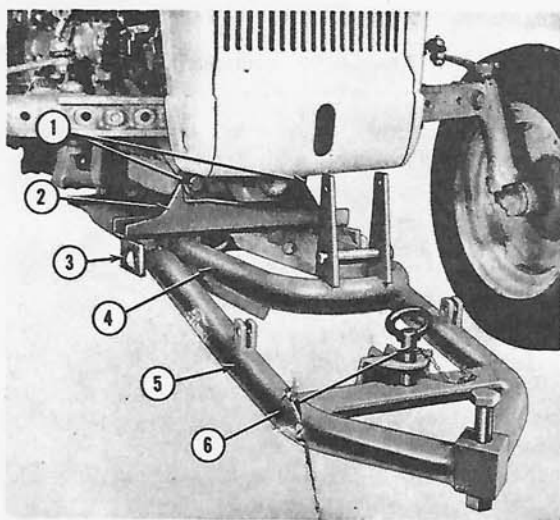

Figure 7
1. Position the frame assembly (4), Figure 7, on the floor under the tractor.
2. Attach the front of the frame assembly to the engine support with two  $\frac{3}{4}$ " x  $1\frac{3}{4}$ " drilled hex head bolts as shown at (1), Figure 7, and install nuts loosely.
NOTE: The frame assembly front support (2), Figure 7, has two sets of mounting holes, use the top set for attaching the frame assembly to Series 600 and 800 tractors and the lower set for frame installation on NAA tractors.
5. Install the lift arm assembly (5), Figure 7, on the frame and insert two  $1$ " x  $\frac{65}{8}$ " pins through the lift arm and frame, one on each side as shown at (3), Figure 7. Secure these pins with  $\frac{1}{4}$ " x  $1\frac{1}{2}$ " cotter pins provided.
6. Install the drop pin assembly in the turntable keeper and attach the chain to the frame stiffener and drop pin using two  $\frac{3}{16}$ " x  $1\frac{1}{2}$ " cotter pins as shown at (6), Figure 7.
With the Dozer Frame installed on the tractor as shown in Figure 7, assemble the Hydraulic Cable Control Attachment as follows: